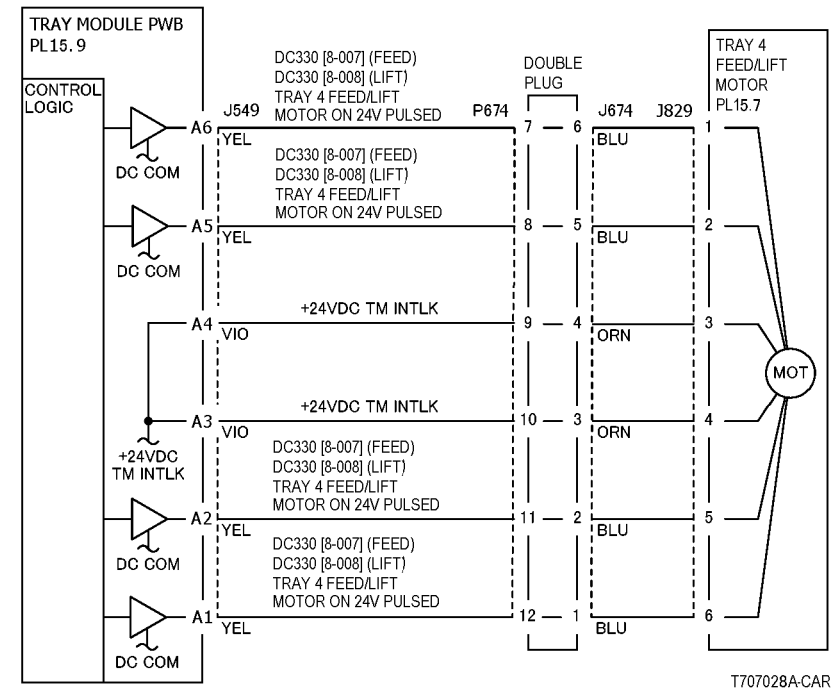
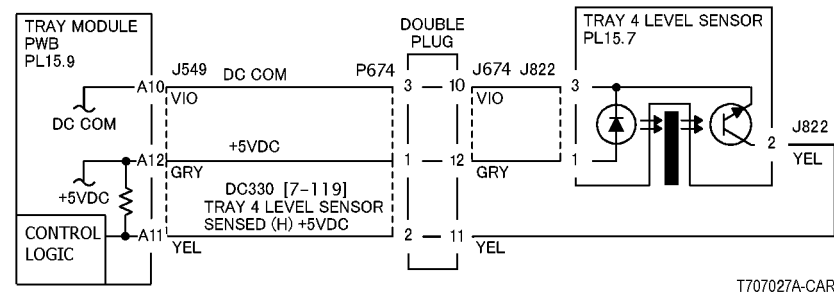

Figure 1 7-284 RAP Circuit Diagram - Tray 4 Feed/Lift Motor (3TM)
Figure 2 7-284 RAP Circuit Diagram - Tray 4 Level Sensor (3TM)
- Ensure that the connectors shown in the circuit diagrams (Figure 1, Figure 2) are securely connected and that the wires are not damaged.